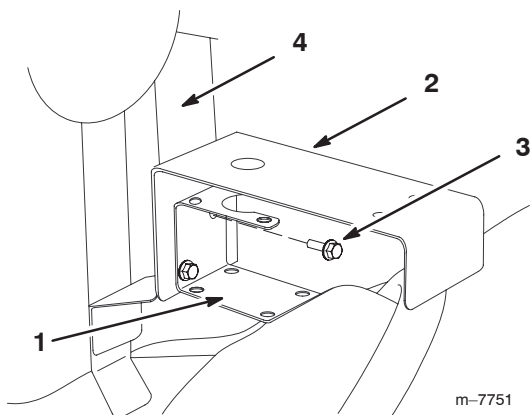

Figure 10
7. Install the control valve bracket between the supply tee bracket and the mounting frame (Fig. 10).
8. Secure the supply tee bracket and control valve bracket to the mounting frame using the bolts in the supply tee mounting bracket loosened in step 6 (Fig. 10).